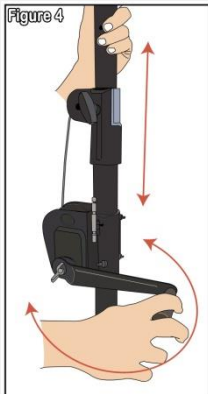

Figure 4
**Step 3** – Turn the handle to crank up the system, tighten the knob and insert the locking pin through the hole to secure the height of the stand, see **Figure 4, 5 and 6**.